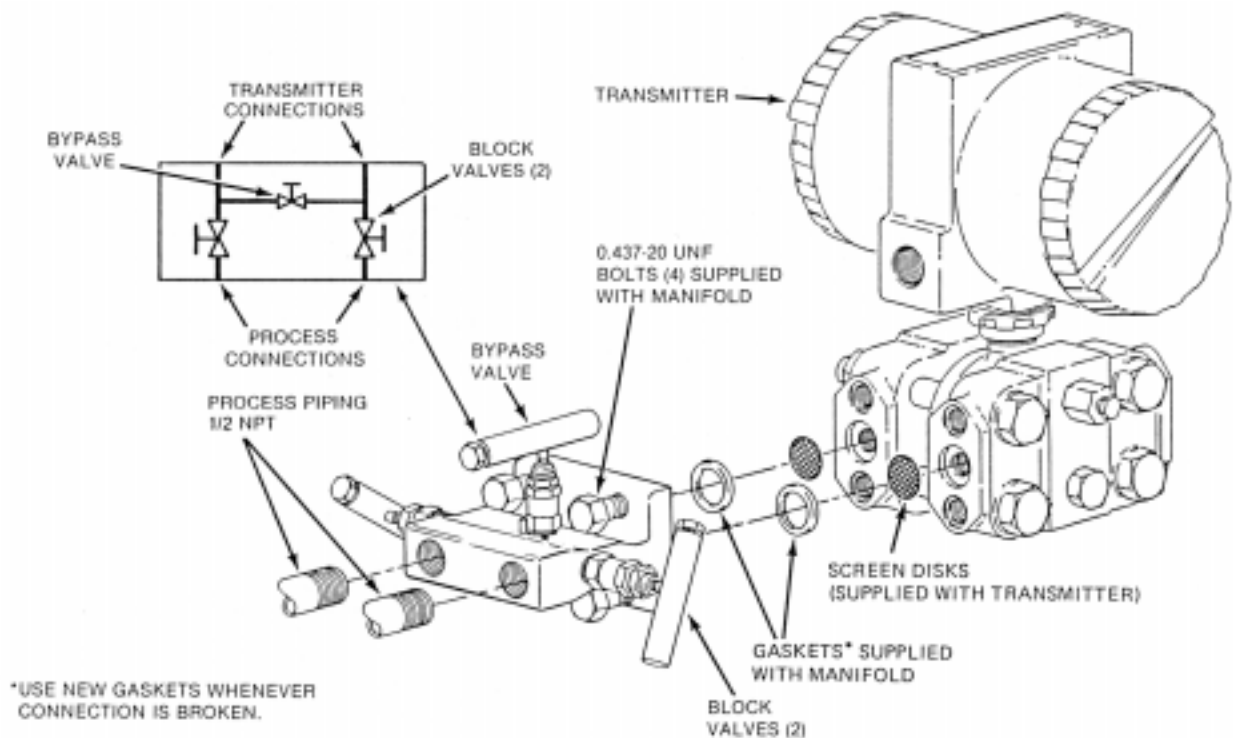

Figure 5. Installation of 3-Valve Bypass Manifold With Integral NPT Process Connections
2. Refer to Figure 5. Before installing bypass manifold, check if transmitter topworks interferes with valve handle. If so, invert manifold 180° before installation. With 823DP Transmitter, topworks can be turned to avoid interference.